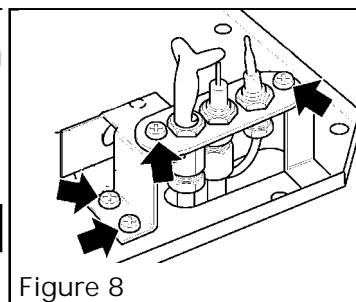

Figure 8
7. Detach the pilot support bracket by removing four screws. See figure 8.